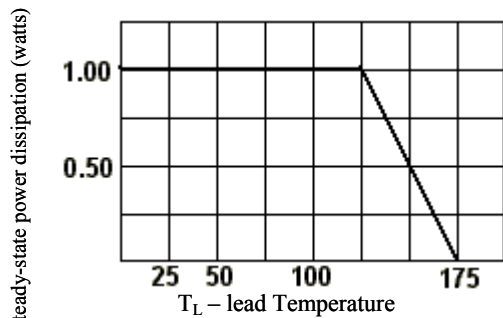

FIG. 3 Steady-state power derating curve
- DC Power Dissipation*: 1 Watt at T_L = +25°C 3/8" (10 mm) from body (see derating in Fig 3)